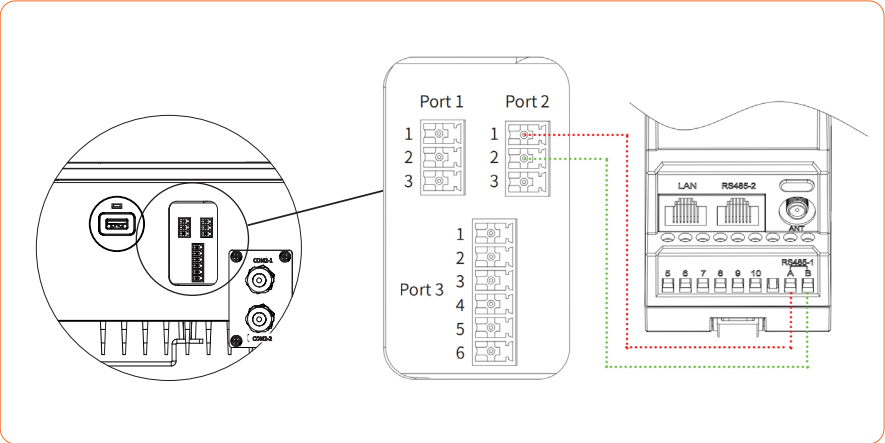

Figure 4-28
The communication wiring diagram of STK and STT 15-30KTL-SE (-S) three-phase grid-connected inverter, as shown in Figure 4-28:
- ① Remove the COM2 plate in the bottom of the inverter with a cross screwdriver.
- ② Put the cable through the connector and connect to the terminal in the following order: screw cap, sealing ring, insulator, metal plate, nut and 3/6pin connector, as shown in Figure 4-28: